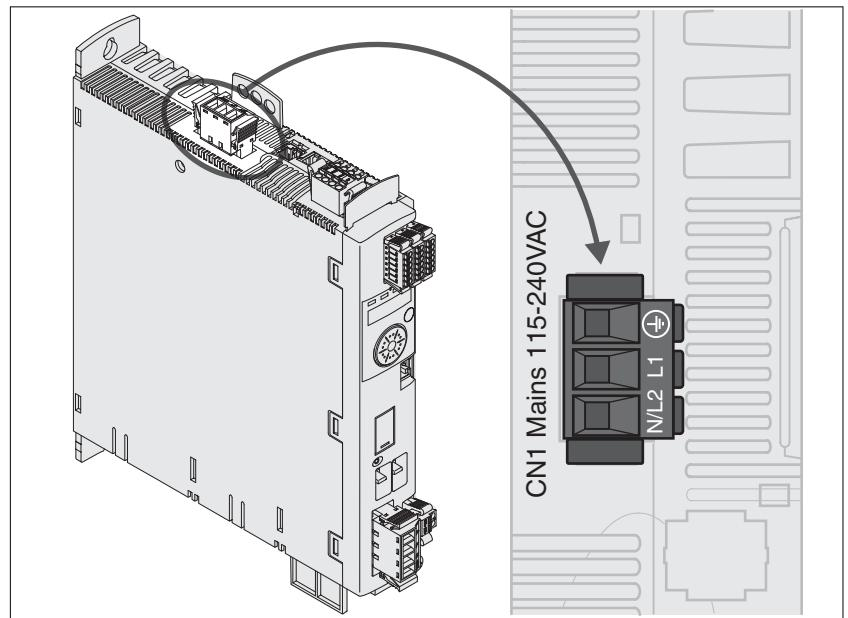

Figure 25: Wiring diagram power stage supply for single-phase device.
- ▶ Connect the mains cable (Figure 25). Note the tightening torque specified for the terminal screws.